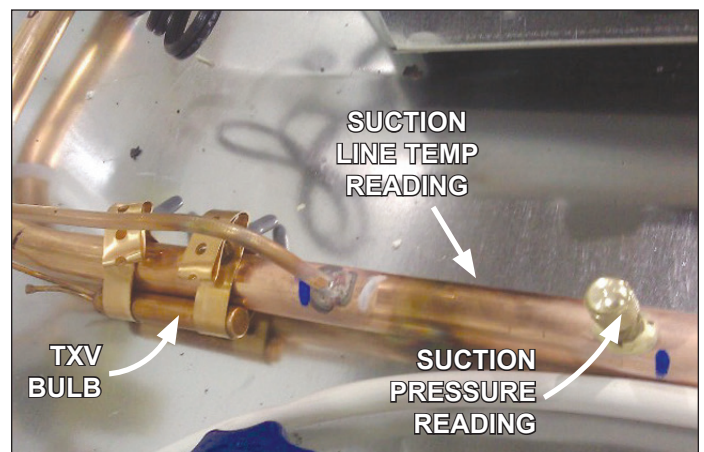

Fig. 17 Obtain pressure and temperature readings
1. Obtain suction pressure from the access port. Obtain the suction line temperature from the area near the TXV bulb at the outlet of the evaporator coil (Fig. 17).